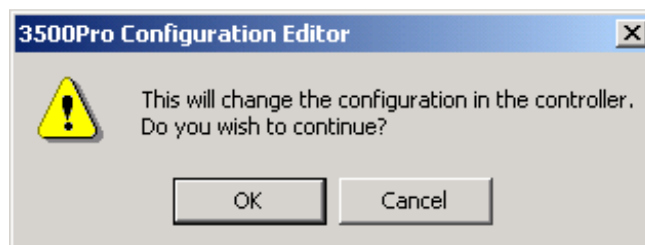

Figure 71: Download Configuration Prompt
2. Select the Download Configuration TO Controller option, then select Execute. The following prompt displays (see Figure 71):